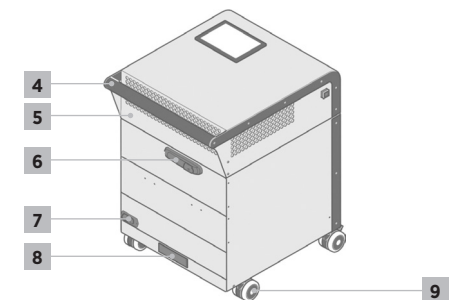

Fig. 4: TK 850 rear view
1. Plug the supplied power cord into the integrated plug socket on the rear of the device (see Fig. 4, item 7 on page 13).
3. Switch on the appliance using the power switch next to the plug socket (see Fig. 4, item 7 on page 13).